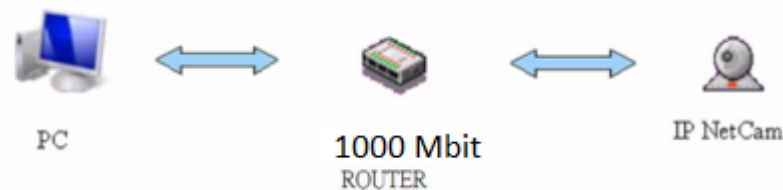

Figure 5.2 - Personal computer connected to a network video camera via router
- A personal computer is connected to a network camera via router (Figure 5.2),
After switching the mode from static to dynamic ip, connect the camera using a router, according to the diagram shown in Figure 5.2, or configure a DHCP server on the PC. For further use of the web-interface, you will need to find out the camera's ip address assigned by the DHCP server.